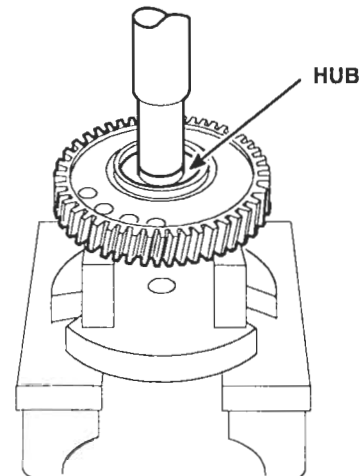

Figure 2. Pressing Hub Out of Bearing
3. Place the idler gear and bearing assembly in an arbor press with the bearing cone or inner race supported on steel blocks (Figure 2.) While rotating the gear assembly, press the hub out of the bearing. Remove the gear assembly from the arbor press and remove the bearing cones and spacers.